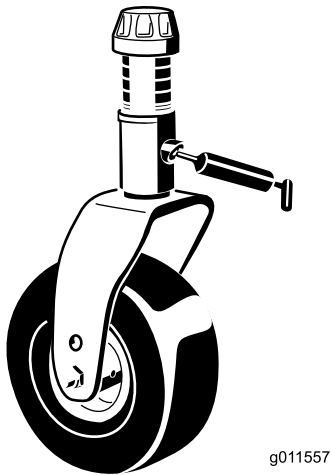

Figure 74
- 1 caster-fork-shaft bushing (Figure 74)